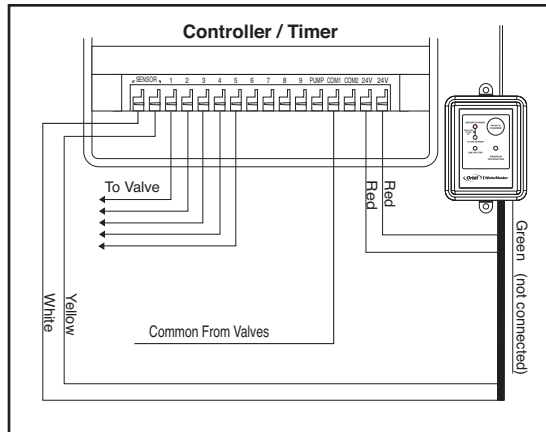

Figure 5: Wiring Sprinkler Timer with Sensor terminals and with out booster pump.
2. Check your timer for pre-installed sensor terminals. If the timer does not have sensor terminals, proceed to step 3. If it does, take the wire from rain/freeze receiver and connect the white (common) wire to one sensor terminal and the yellow (normal closed) wire to the other. (see figure 5) Skip to step 5.
2. Check your timer for pre-installed sensor terminals. If the timer does not have sensor terminals, proceed to step 3. If it does, take the wire from the rain/freeze receiver and connect the white (common) wire to one sensor terminal and the yellow (normal closed) wire to the other. (See figure5) Skip to step 5.